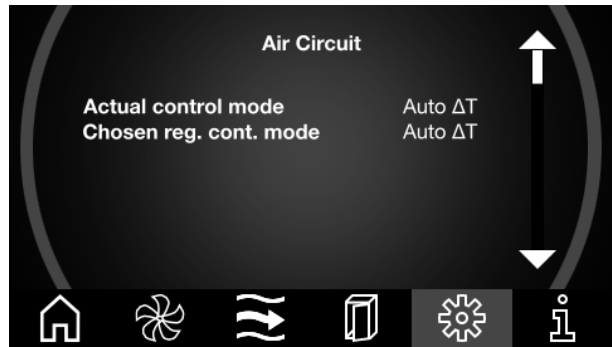

Fig. 78: "Air Circuit" screen pages
- Scroll with the arrow keys from the "Air Circuit" screen page (fig. 78) to the second screen page.